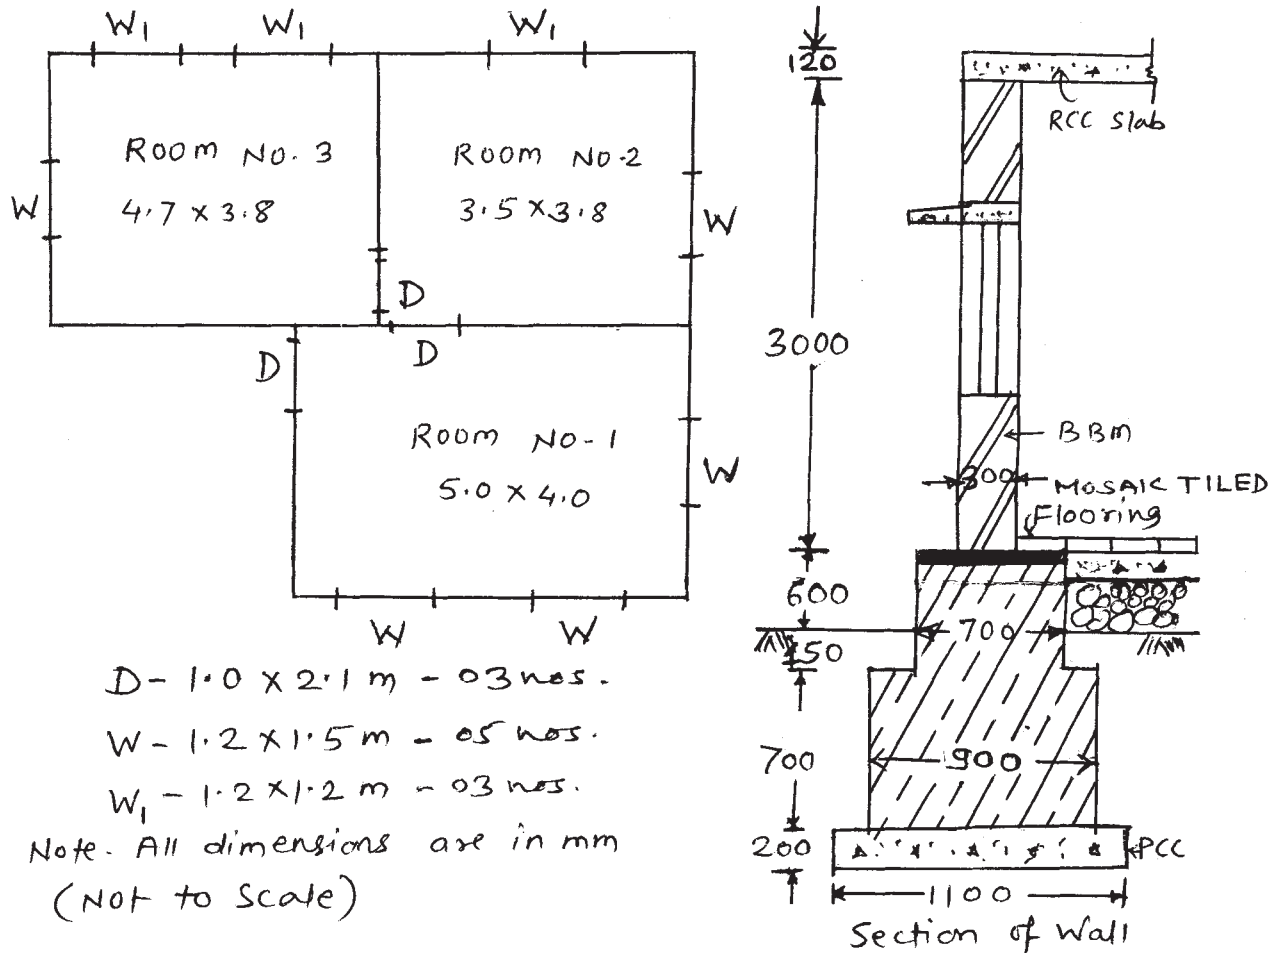

Fig. No. 1
4. a) Work out the quantities of any two of the following items 8
- by refering Fig. No. 1 and enter them in standard measurement sheet with brief description of items.